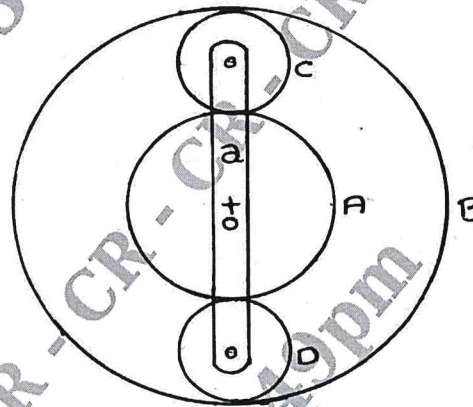

Fig.Q.10
- 10 An epicyclic gear train is shown in Fig.Q.10. The number of teeth on A and B are 80 and 200. Determine the speed of the arm "a".